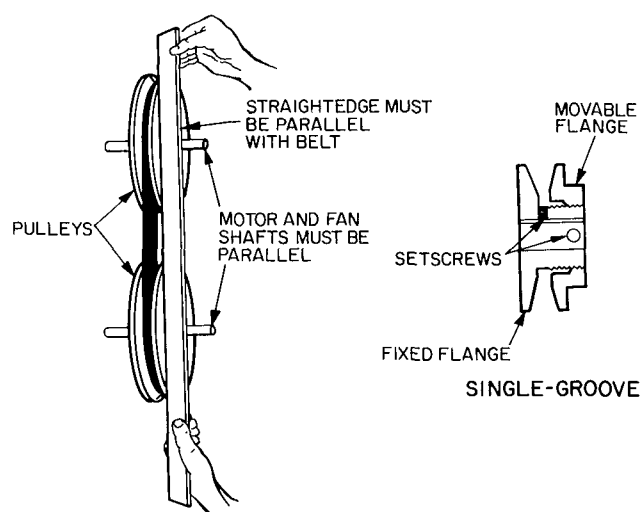

Fig. 13 — Evaporator-Fan Pulley Adjustment
3. Loosen movable pulley flange setscrew (see Fig. 13).